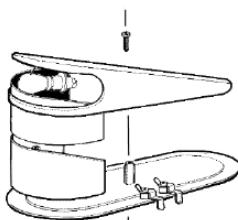

figure 16
- 3** Replacement of lighted top cover bulb: remove the fixing screw placed in the upper part of the top cover, remove the lower part and replace the bulb (using a 24-28V 21W max bulb). Reassemble the top cover and replace the fixing screw.(see figure 16)